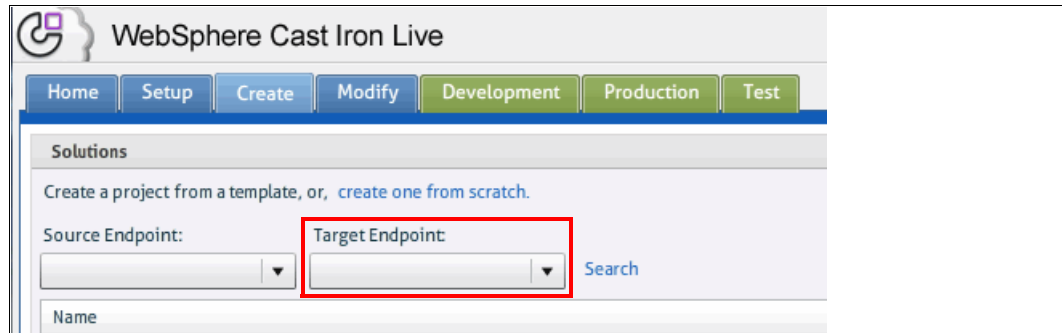

Figure 11-4 Cast Iron Live Create tab
1. Go to the Create tab, and click **Target Endpoint**, as shown in Figure 11-4 on page 439.